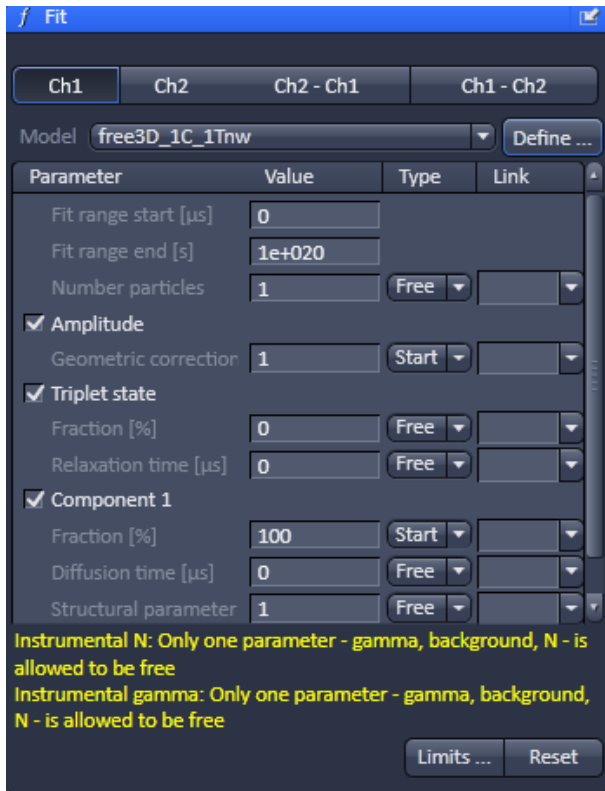

Fig. 247 Fit tab
- Click on the **Fit** tab to open the **Fit** control panel (Fig. 247). Click the tab again to close the panel.